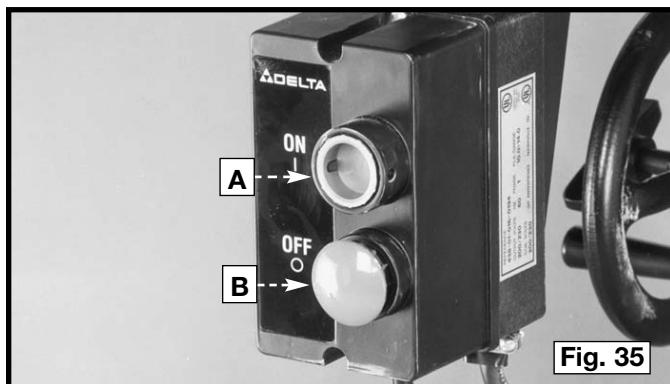

Fig. 35
1. The on/off switch (A) Fig. 35 is located on the front of the machine. To turn the machine "ON", depress the "ON" switch.